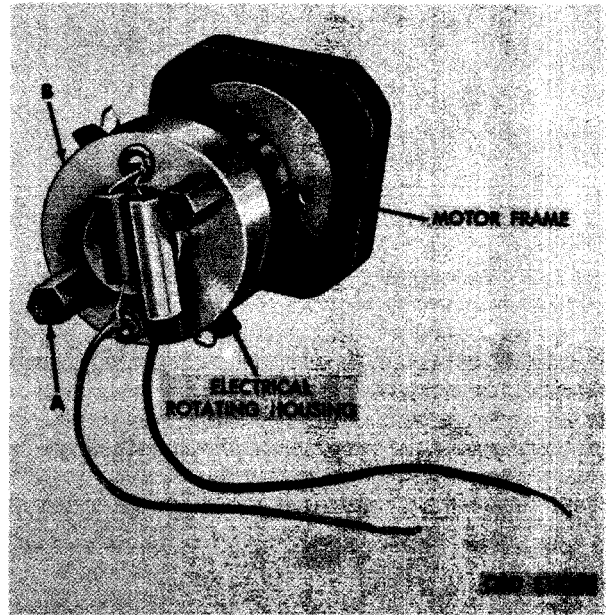

FIGURE 426. REMOVING ELECTRICAL ROTATING HOUSING AND ASSOCIATED PARTS FROM MOTOR FRAME.
(2) Figure 426. (A) Remove two mounting studs securing electrical rotating housing to motor frame. (B) Remove electrical rotating housing and associated parts from motor frame.